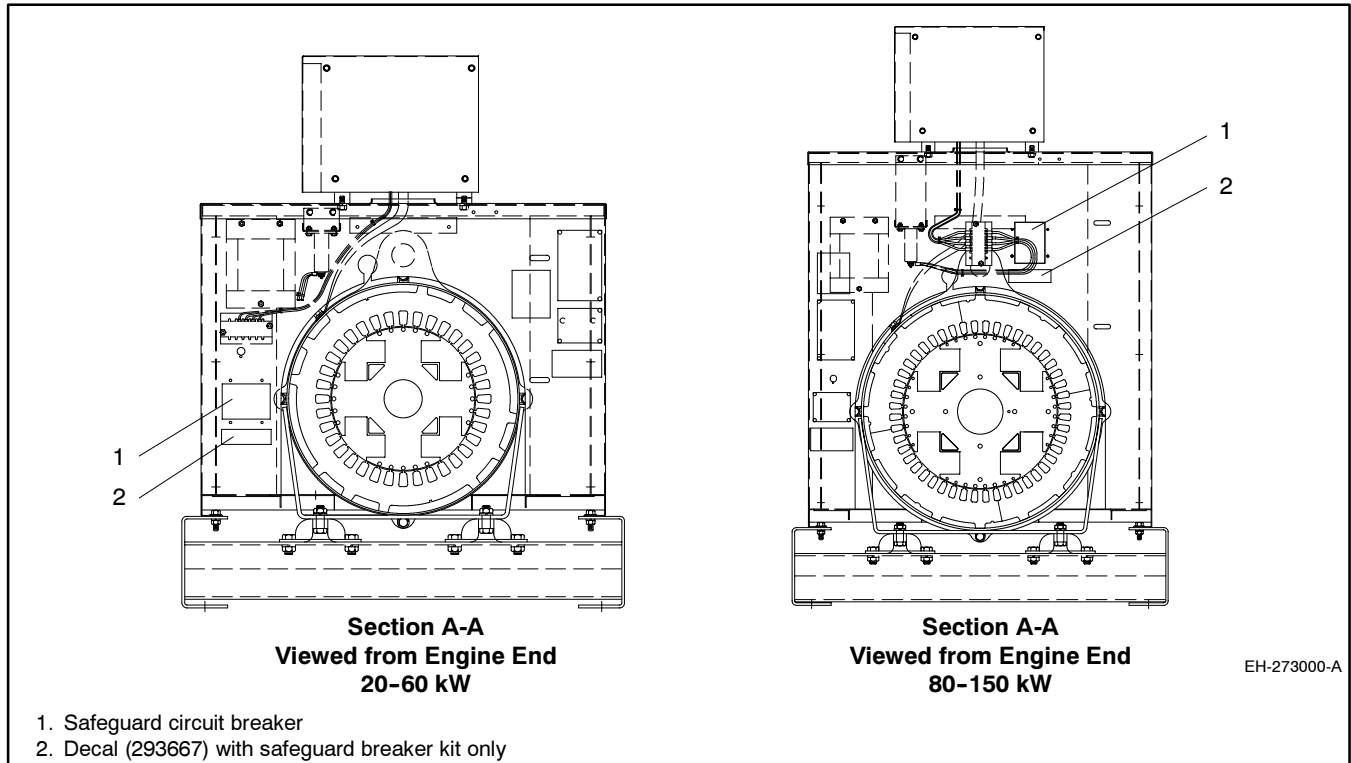

Figure 1 Safeguard Circuit Breaker Locations
5. Locate and remove safeguard circuit breaker knockout. See Figure 1 for location. To remove, place wood block behind plate and strike with hammer. Remove burrs.